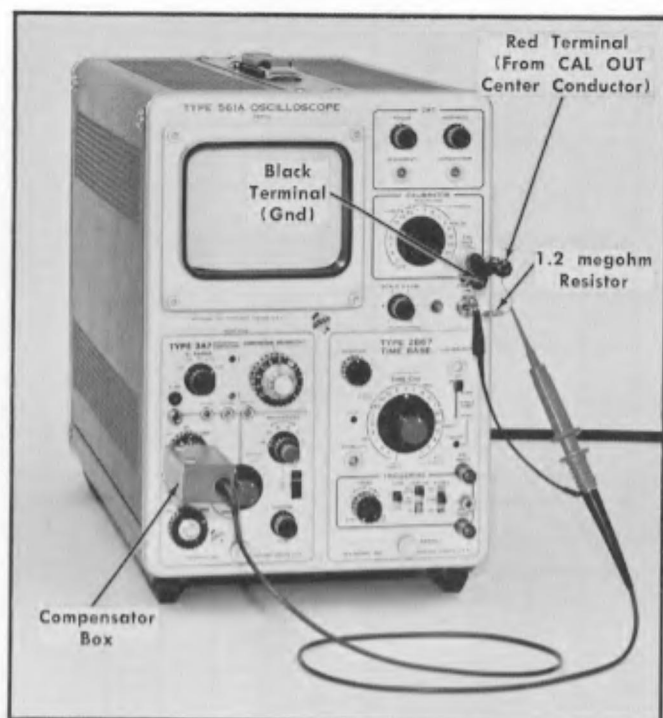

Fig. 2-10. Setup for adjusting the A input probe.
k. Connect the compensator box of a P6023 Probe to the A input connector. Connect the probe tip to the red terminal (Cal Out) on the adapter. Fig. 2-10 shows the setup.